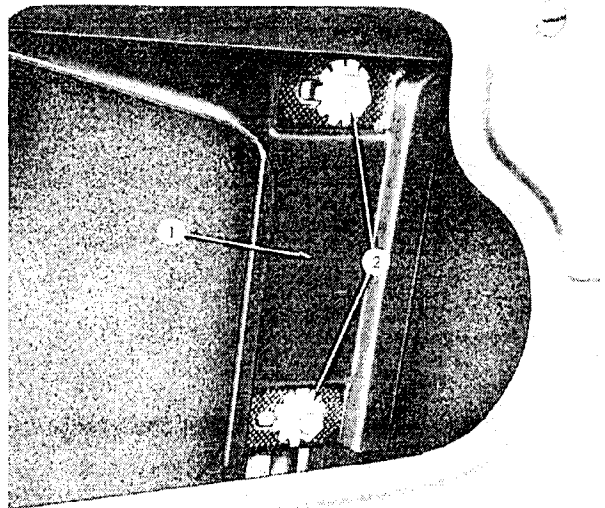
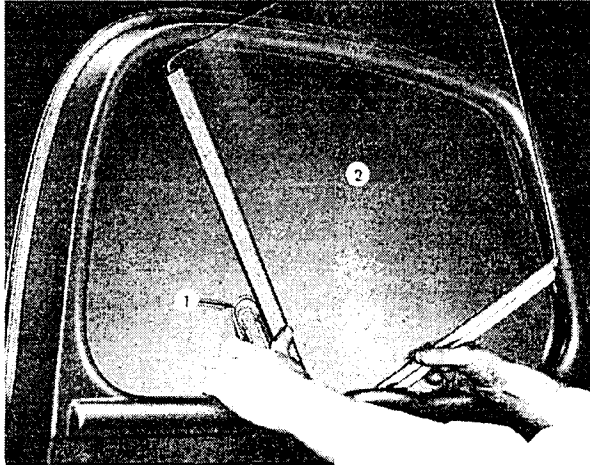

FIG. 24
FIG. 25
Remove the nuts and washers (2, Fig. 24) from the guide studs. Slip the regulator arm out of the slot in the window lift channel. Pull the lift channel (1) off the guide studs. Tilt the glass approximately 45° clockwise (see Fig. 25) and lift the window out of the door.